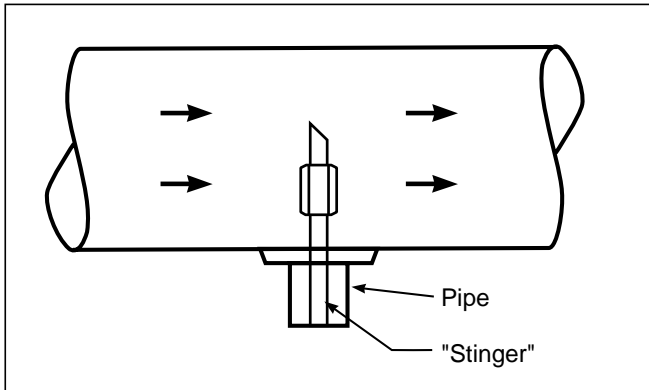
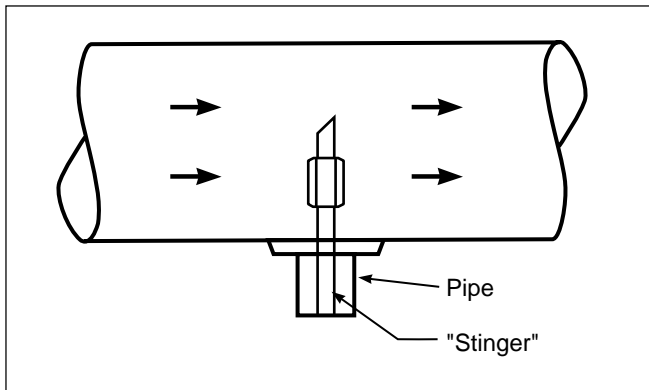

Figure 6a — Proper quill alignment in water stream
Figure 6b — Proper quill alignment in a mixed phase stream
2. Mark the long side of the quill on the “stinger” pipe. When inserting the quill in a water stream, orient it so the long side is facing **upstream**. (See Figure 6a.) When using the slotted quill on mixed phase applications, the orientation of the quill must be so the long side is facing **downstream**. (See Figure 6b.)